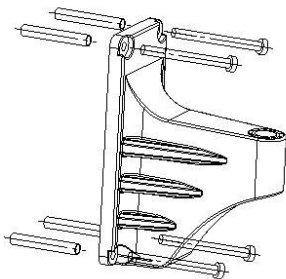

Fig.1
4. Fix the bracket by four self-tapping screws accordingly, (Fig.1)